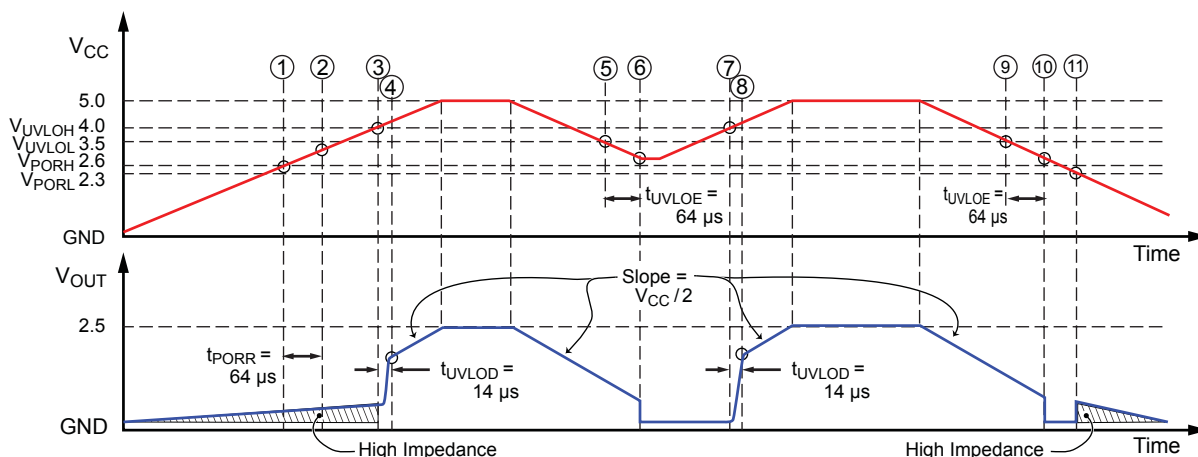
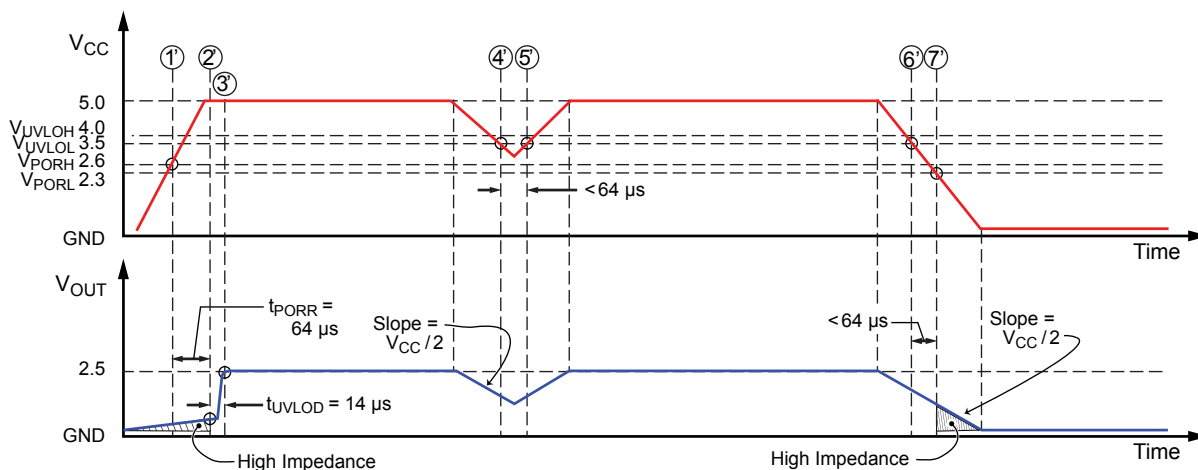

Figure 8. POR and UVLO Operation: Slow Rise Time case
Figure 9. POR and UVLO Operation: Fast Rise Time case
• **Power-Up** At power-up, as V_{CC} ramps up, the output is in a high impedance state. When V_{CC} crosses V_{PORH} (location [1] in figure 8 and [1'] in figure 9), the POR Release counter starts counting for $t_{PORR} = 64 \mu s$. At this point, if V_{CC} exceeds $V_{UVLOH} = 4 V$ [2'], the output will go to $V_{CC} / 2$ after $t_{UVLOD} = 14 \mu s$ [3].